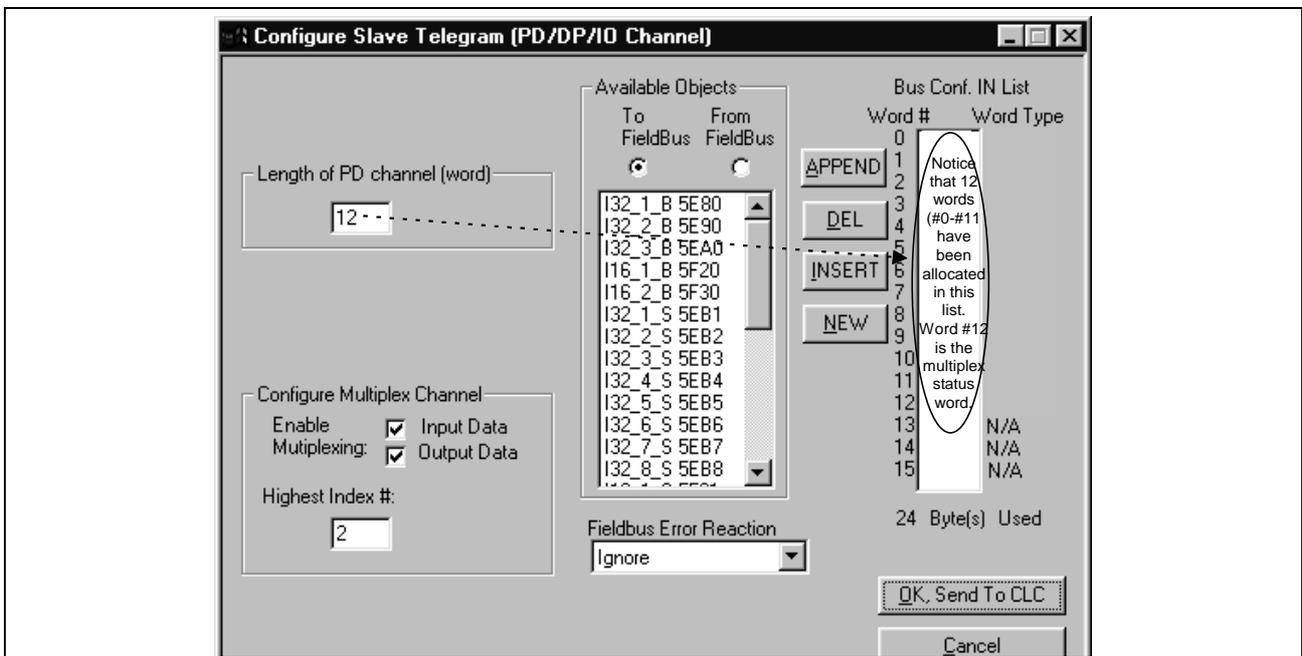

Figure 2-13: Interbus Configuration Screen
- Click the button labeled "Define/Config Slave Objects." The Fieldbus Mapper will try to detect any configuration data from the CLC-D. If you are configuring a new list, click on the "NEW" button to clear any current data in the selected list. The Interbus Configuration Screen is pictured in **Figure 2-13: Interbus Configuration Screen**.